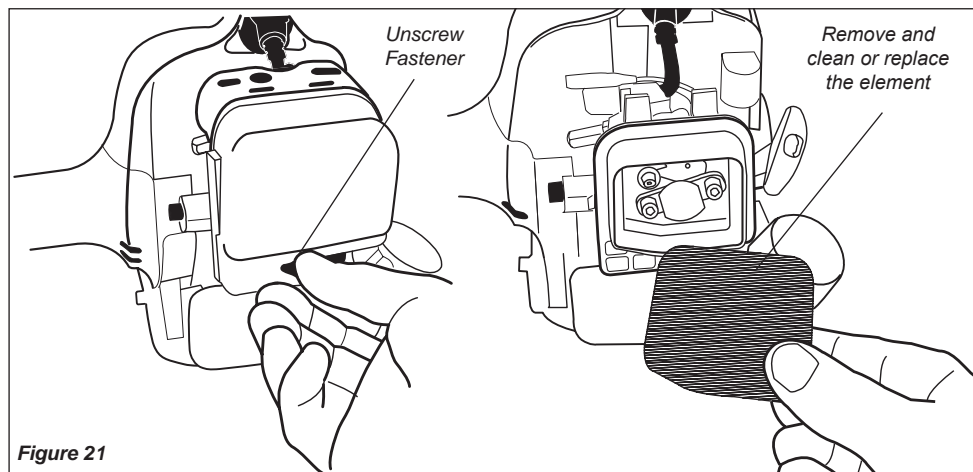

Figure 21
- Remove the air cleaner element. See Figure 21. Clean or replace as necessary. To clean element: wash it thoroughly in soap and water. Let it dry before reinstalling the element.